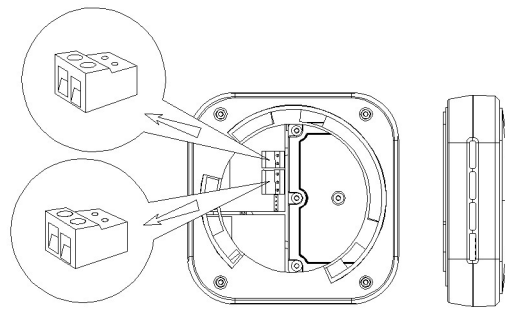

**Fig. 5.**
3. Pull wires through the opened hole. See Fig. 5 and 6.